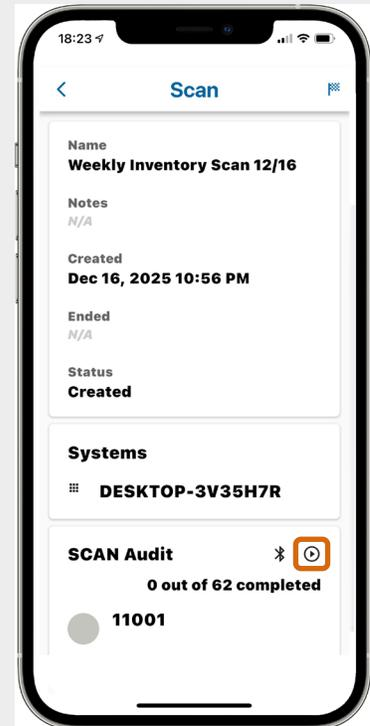

Fig. 97 – Scan screen with Start button indicated (KEYper GO)
1. Tap **Start**  to open the camera, as shown in Fig. 97.